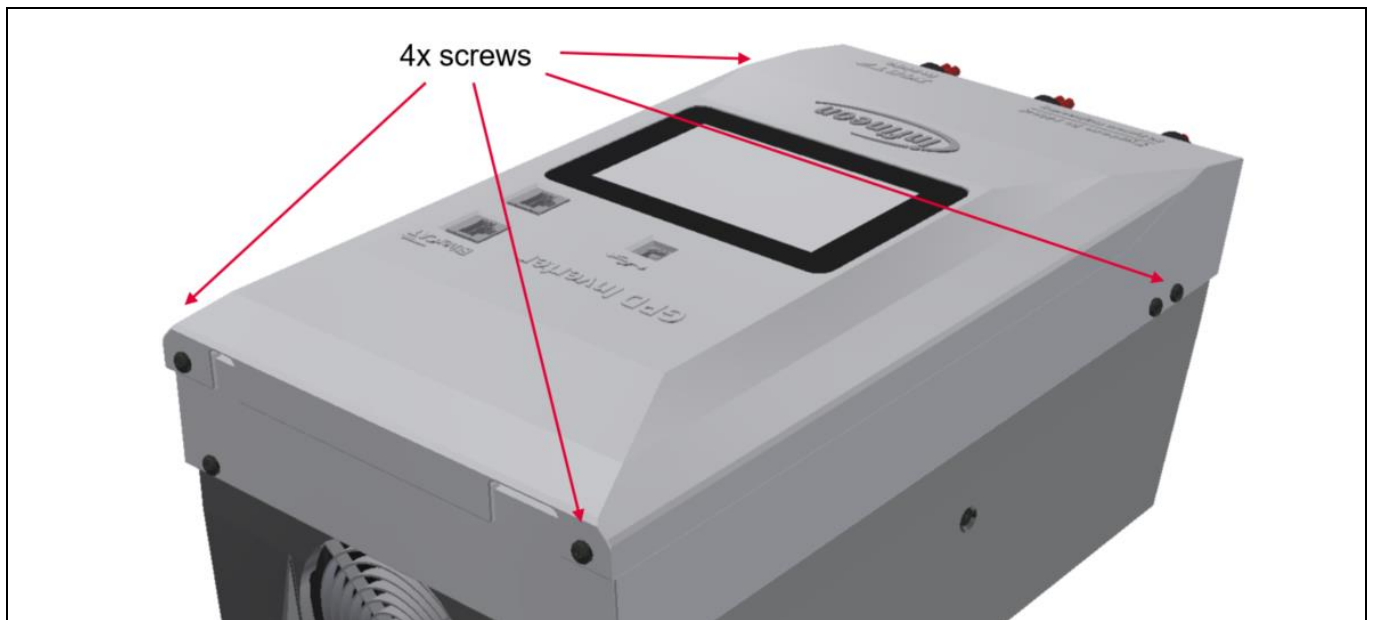

Figure 18 Disassembly of the front cover
1. Low-voltage cover: remove four screws at the side of the cover; see Figure 18.